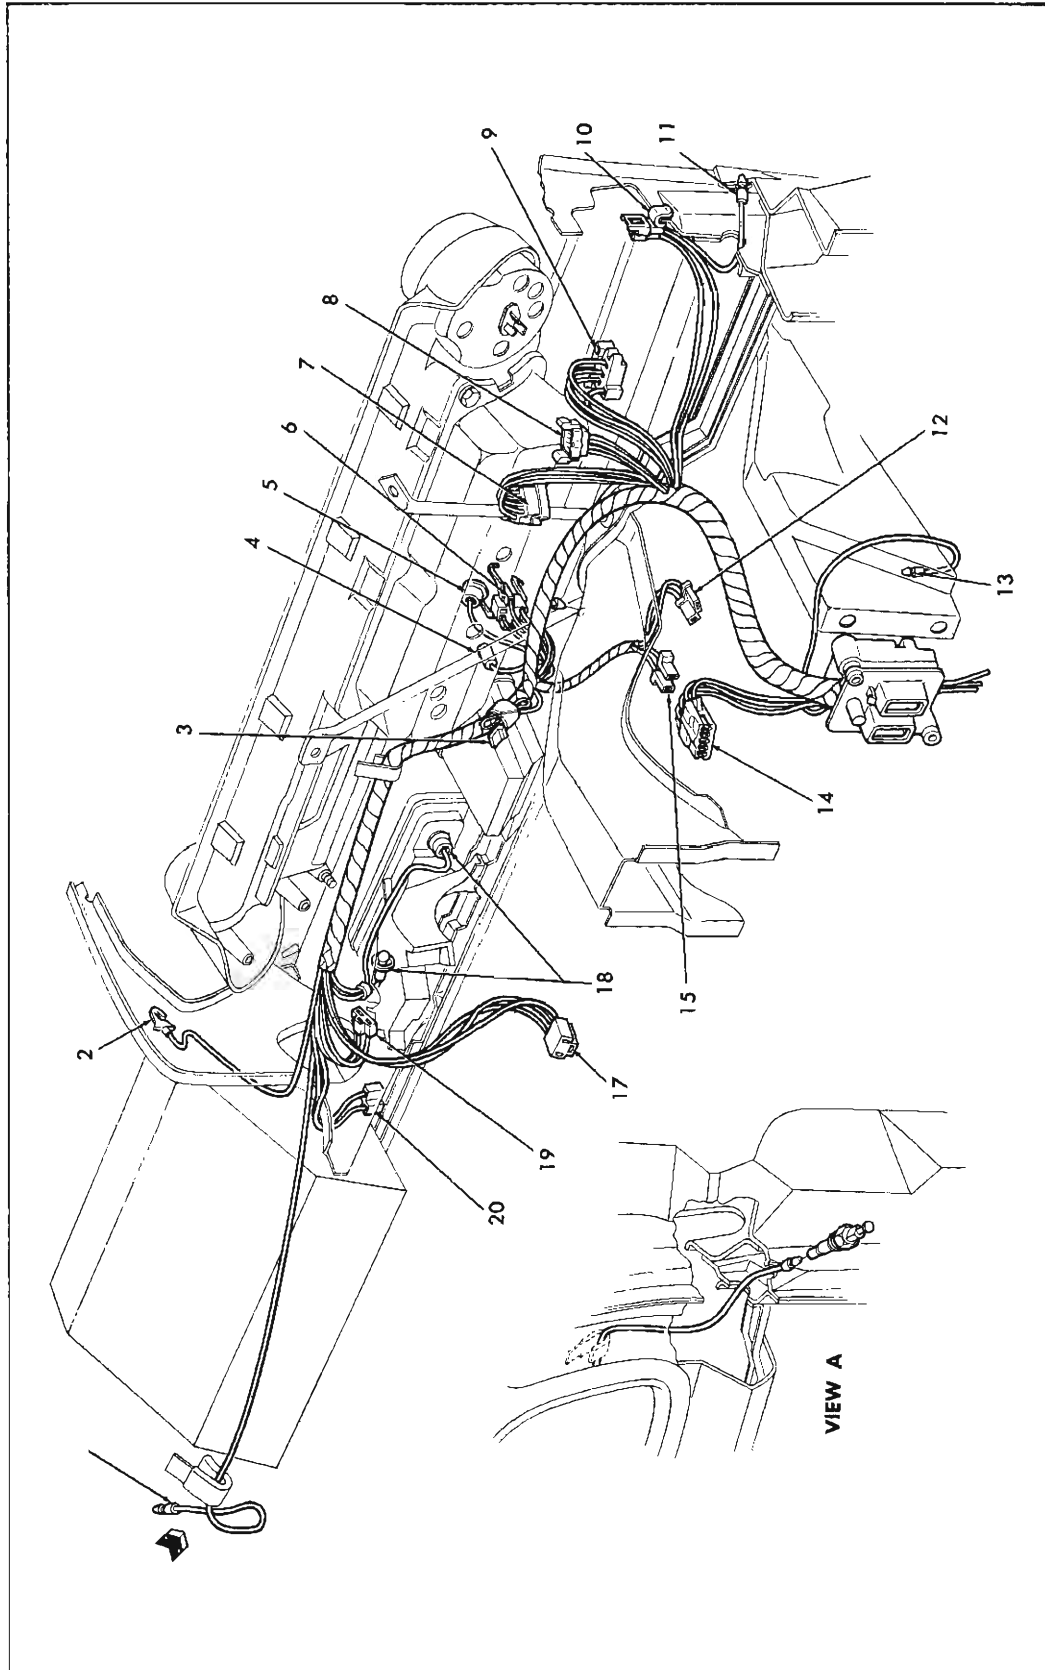

Fig. 33—Instrument Panel Wiring
3. Disconnect speedometer cable at speedometer housing and disconnect wiring harness at quick disconnects (fig. 33).